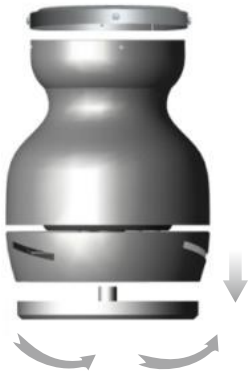

Fig 1.2
1.2 Rotate and take out the motor hub cover as shown in Fig 1.2.